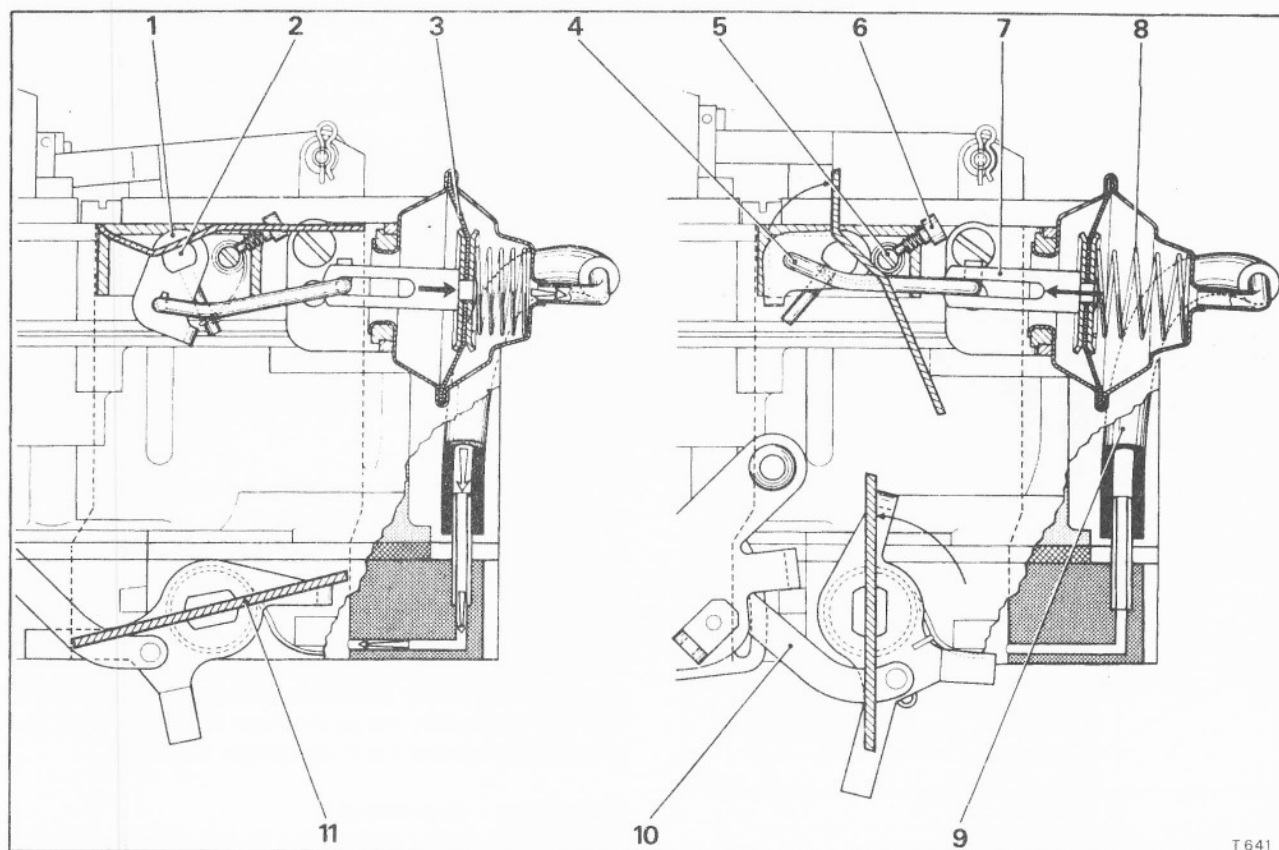

Fig. K57 Secondary stage air flaps damper
The secondary air flap is returned to its closed position by a spring (see Fig. K57, item 5), one end of which is attached to a pin pressed into the air flap spindle (item 2) and the other end to an adjustment screw (item 5). The tension of the spring, is set relative to the air flow in the mixing chamber of the secondary stage and is locked by a small screw (item 6). The tension of the spring is adjustable and if necessary should be set in accordance with the instructions given in the 'Service adjustments' section.